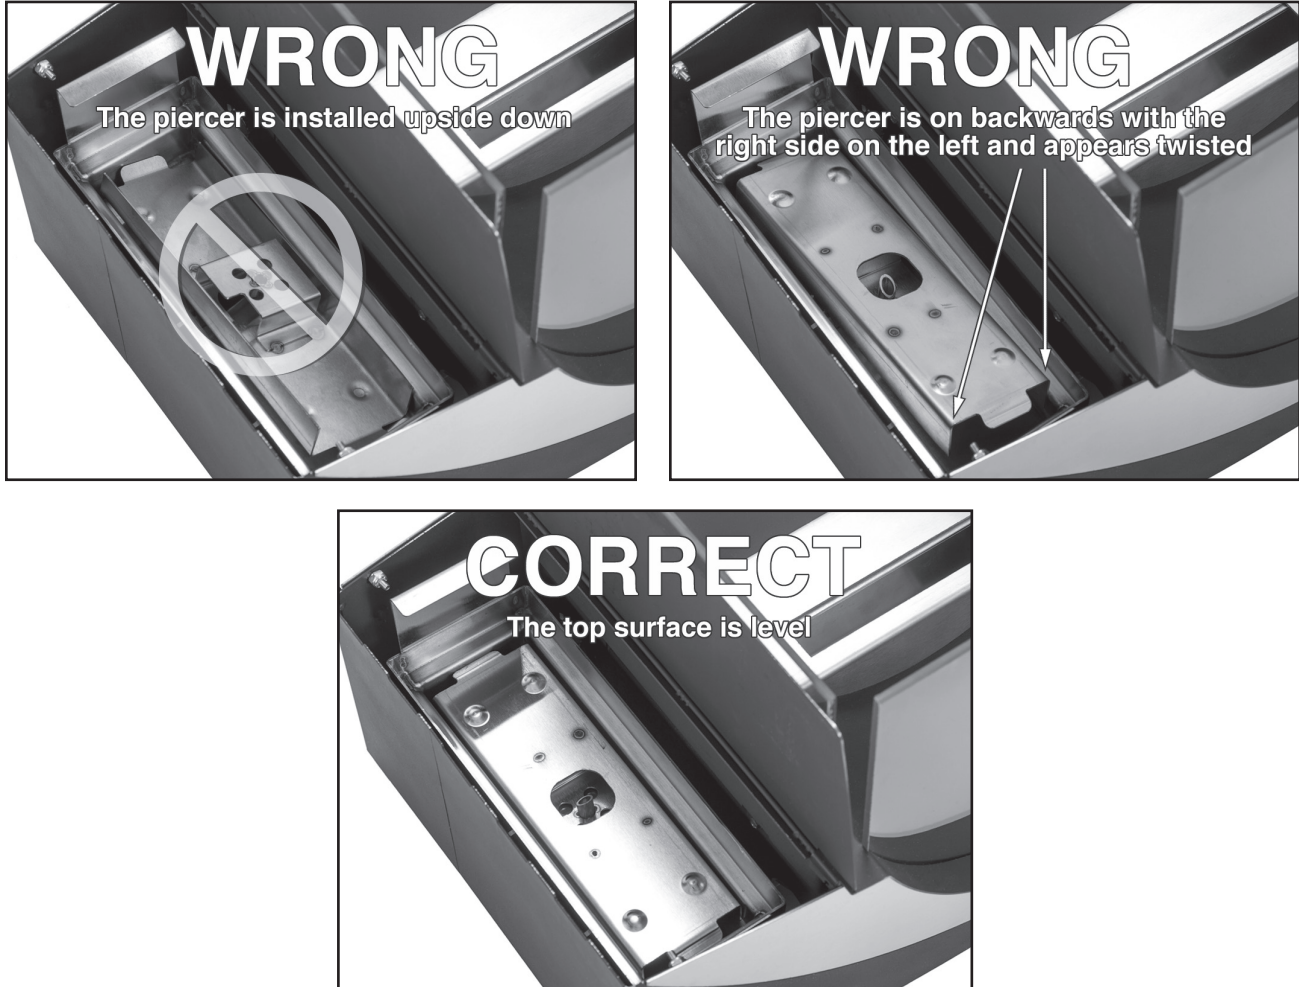

Figure 12
5. Make sure that all parts of the appliance are returned to their proper operating positions by following assembly instructions. Ensure the piercer is installed properly (see Figure 12). The top surface of the piercer should be level. If it is higher on the back end or on one side, then turn it around and place it back in place again.